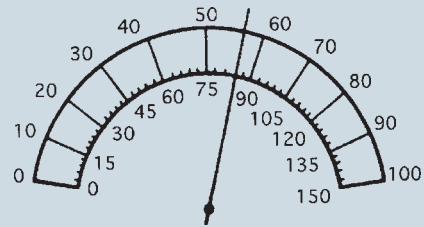

Figure 12.39
3. Fig. 12.39 shows a scale of a multi-range ammeter. What is the current indicated when switched to a 25 A scale?